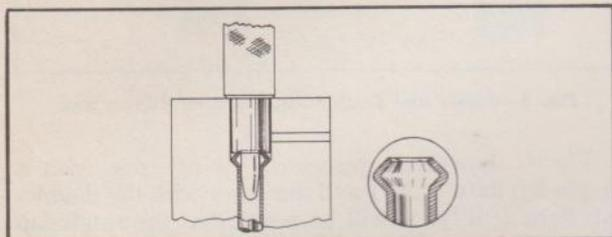

Fig. 9—First Flaring Operation
- Using the flare forming tool having the concave die, J-1280-2, insert the forming tool in the die and strike firm blows, using a one pound hammer, until the shoulder of the tool contacts the top of the die. The cross section drawing (Fig. 9) shows the first step in forming the double-lap flare.